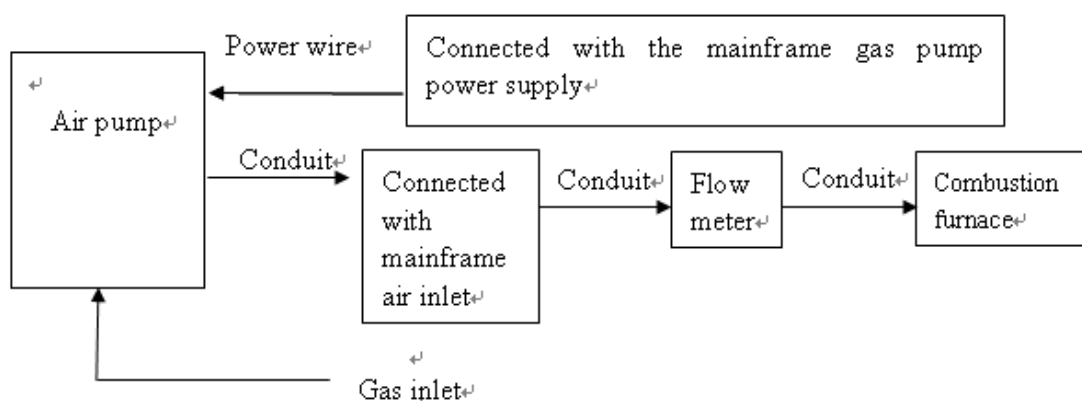
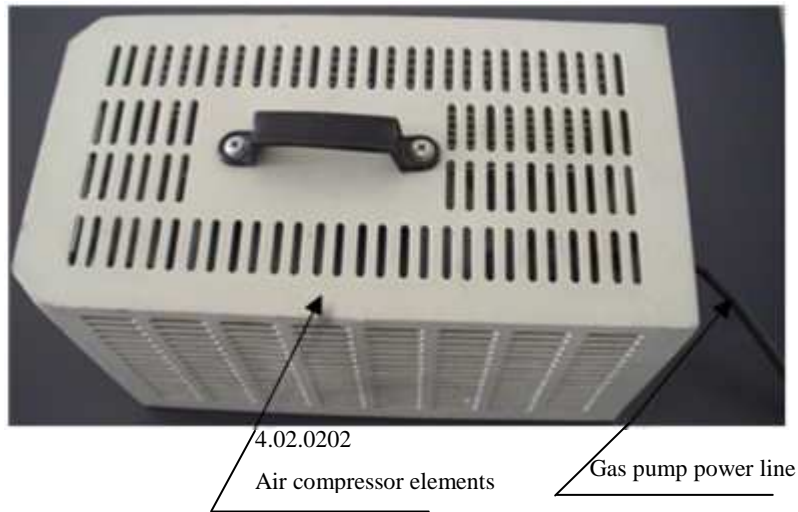

Fig. 3-8
Fig. 3-9
- 1) Install the air supply system of the combustion furnace based on the circuit as shown in Fig.3-8 Circuit Diagram (Shown as fig.3-9):